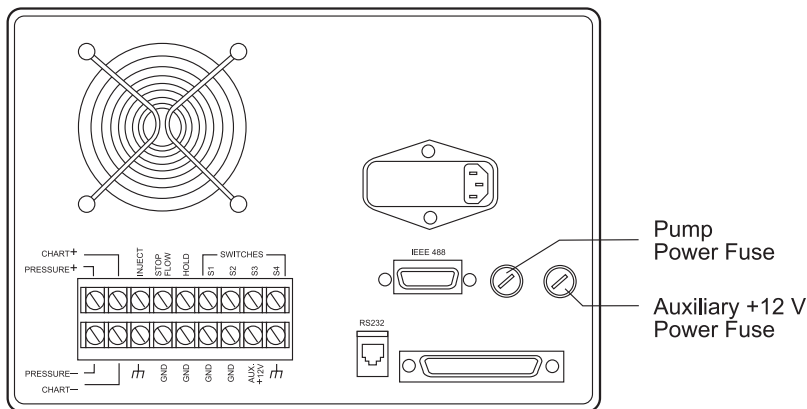

Figure 4-17 Auxiliary +12 V and Pump Power Fuses
2. Insert a small flat-blade screwdriver into the slot on the fuse holder for the Aux +12 V fuse (see Figure 4-17).
2. Insert a small flat-blade screwdriver into the slot on the fuse holder for the pump power fuse (see Figure 4-17).